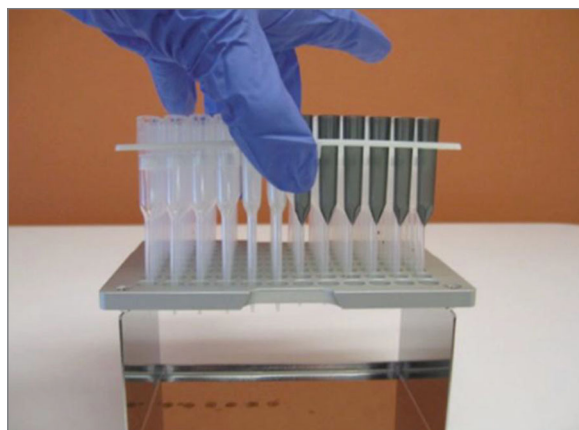

FIGURE 5.13: Insert the tips and foil piercers into metal tip carrier
- b. Place the tips and the foil piercers into the carrier. Hold the plastic tip rack by the center tabs, hold the tip rack over the metal holder, and slowly lower the tips into the metal holder. It is helpful to place the carrier at eye level to align the plastic tips (**FIGURE 5.13**).